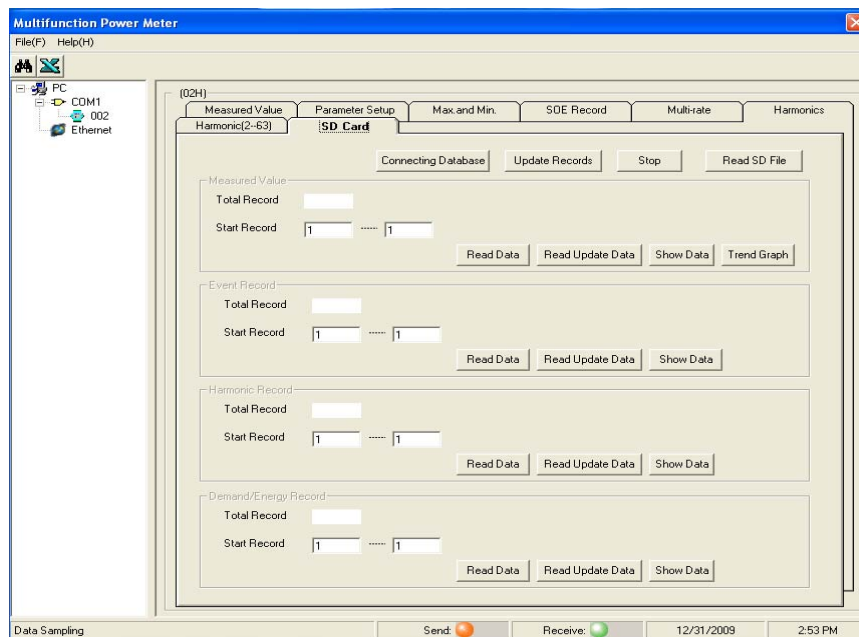

Fig. 150
1. Click “connecting database” bar as shown in Fig. 150. The user can click “update record” after the connection is done successfully. Input the records that you want to read, and click “read data”. After the data is retrieved, the user can click “show data” or “trend graph” to get the data desired.